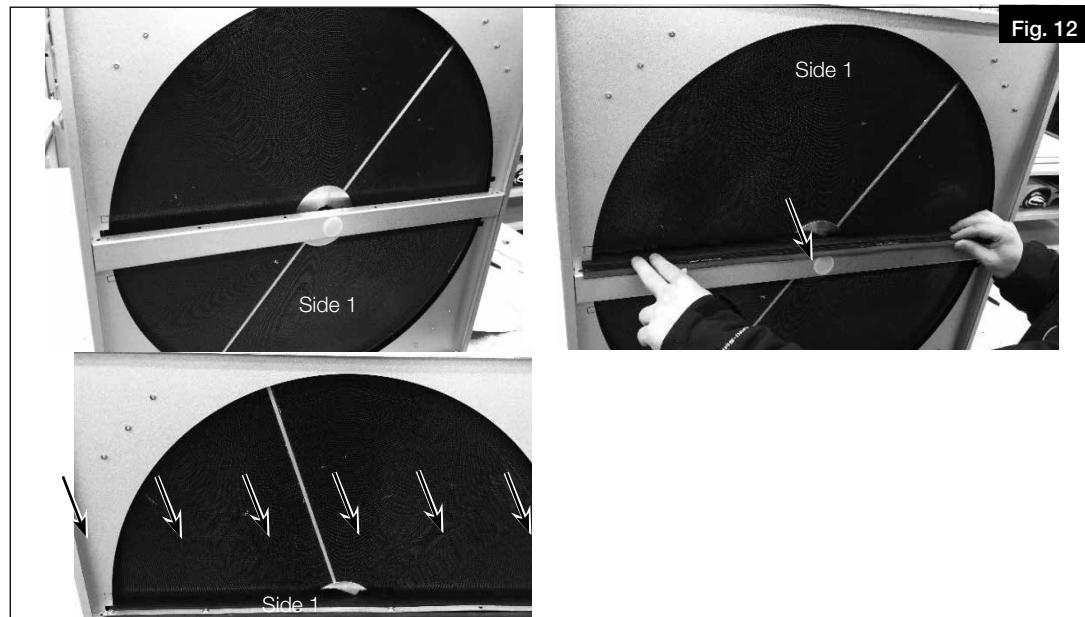

Fig. 12
5. Fit lower gasket and sheet metal to side 1 (see Fig. 12).